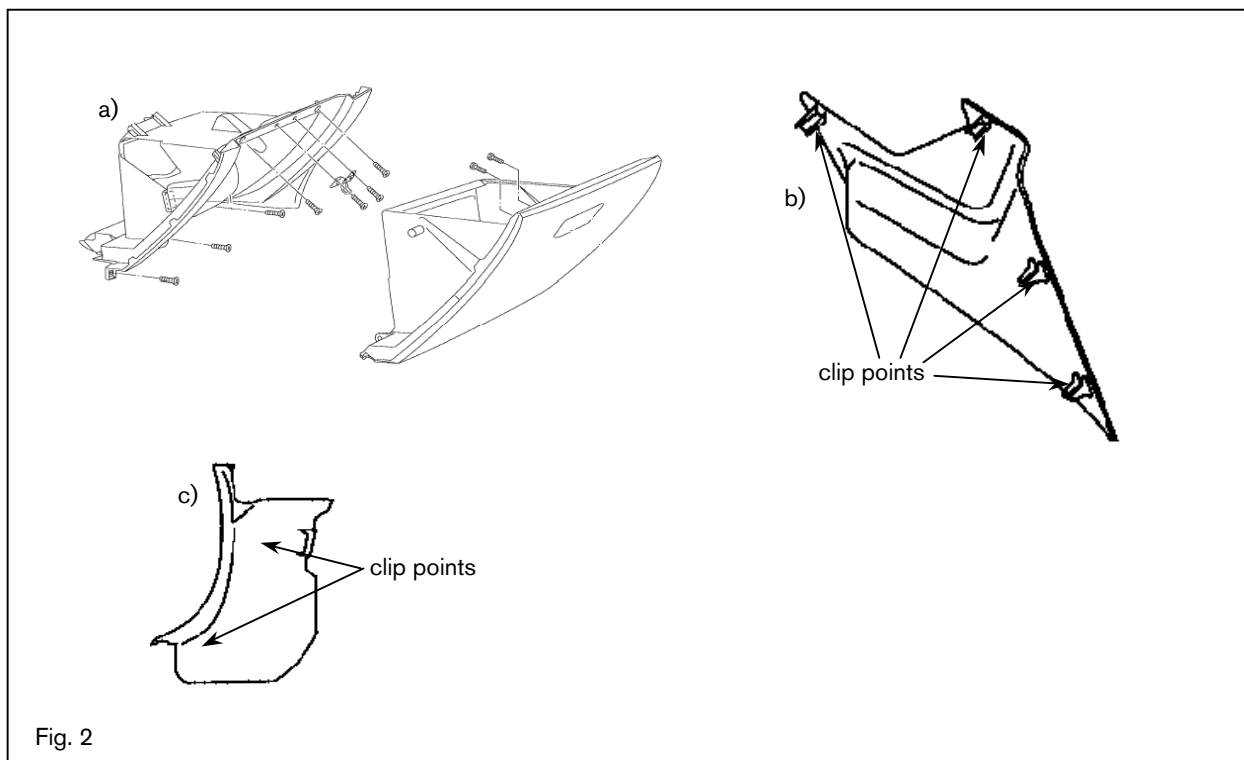

Fig. 2
- (3) Make sure that the shift lever is engaged in the "P" position.
- (4) Turn the ignition switch OFF
- (5) Open engine hood.
- (6) Disconnect the battery negative terminal to prevent short circuits during installation.
- (7) Remove the following interior parts as shown in Fig. 2 (Refer to vehicle service manual)